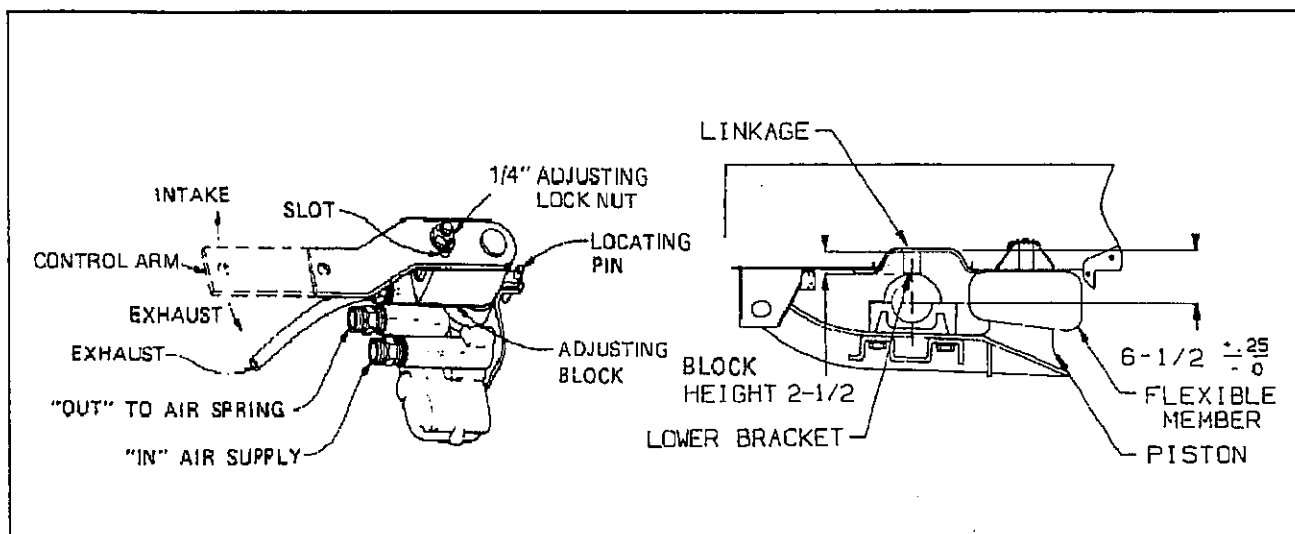

Figure 4-4 Air Ride Height Adjustment
4-7.1 Air Ride Height Adjustment. (See Figure 4-4 for parts identification).
e. Move the control arms to the "down" position (about 45°) for 10-15 seconds. Slowly return the control arms to the center position and insert locating pins into the adjusting block and bracket on the automatic height control valves (see Figure 4-4).